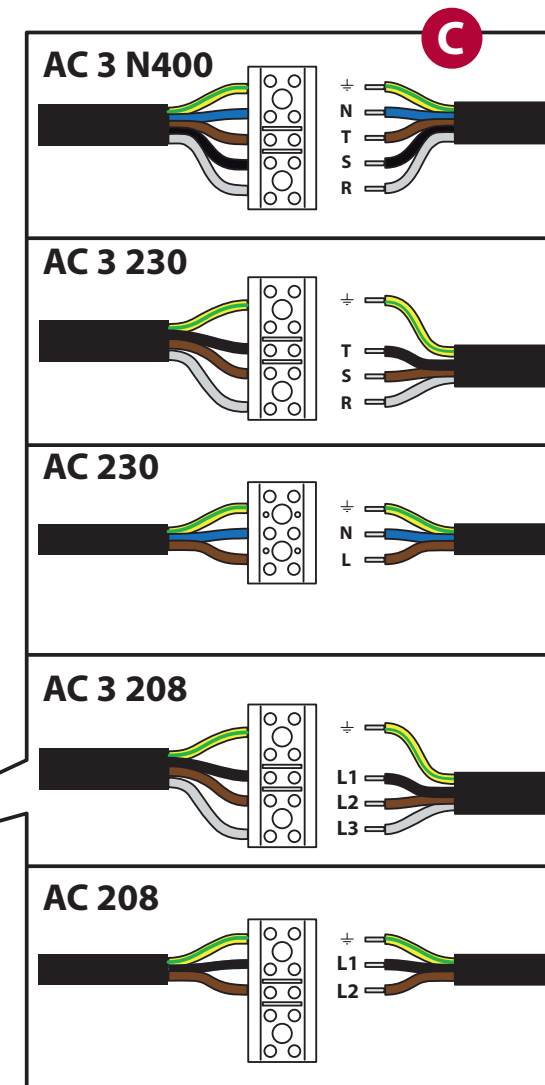

Fig. 11
- machines for the American market - UL **have NO power cable and NO plug**. Both are NOT supplied, must be fitted by qualified personnel and must be only **of the type stated** in the table. ▶ **Fig. 11** To connect the cable to the appliance, **A** remove the LH side panel of the product, **B** let the cable through the cable clamp provided and **C** connect it to the terminal block correctly.